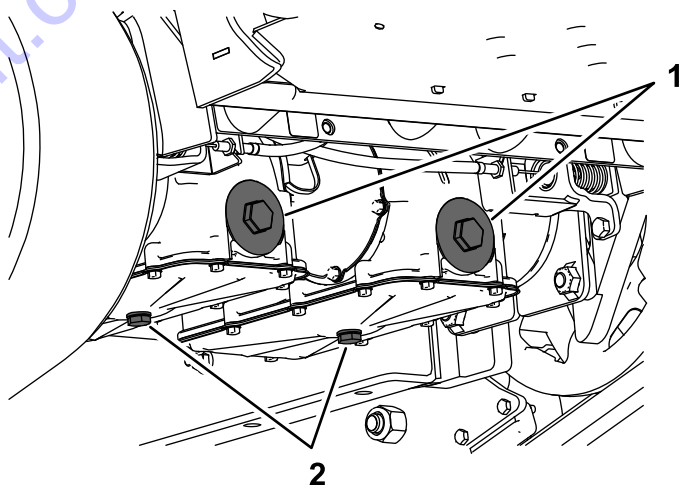

Figure 50
1. Rear bolts (2)
3. Side bolts (4)
5. Locate the drain plug in the bottom of each transmission, then place a drain pan under the plugs (Figure 50).
7. Remove the hydraulic-filter cap and hydraulic filter from each transmission (Figure 50).